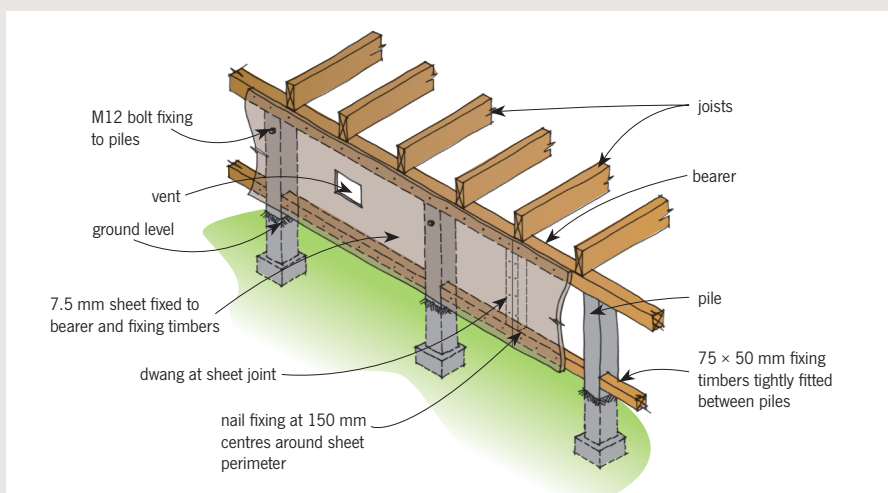

Figure 4: Bracing a piled house with sheet material. This can also be used for jack studs, probably more easily than the option below.
- fixing plywood sheet bracing around the perimeter, which may be attached to the piles directly (see Figure 4) or to the jack stud framing if on a sloping site – this can be quite tricky and may require the services of a consulting engineer